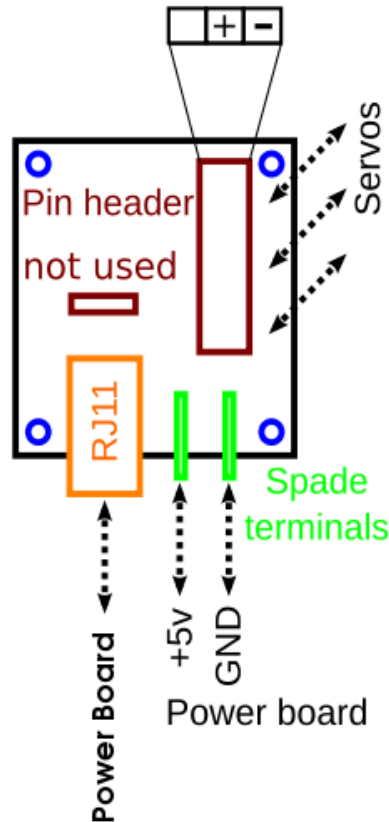

Figure 5.0 – Overview of PWM Board
- Connect SERV+ on the Power Board to the +5V spade on the PWM Board. Connect GND on the Power Board to the GND spade on the PWM Board (Figure 5.0). This provides power to the servos.
There is provision for up to six servos to be controlled by the PWM board (the last two sockets on the board are repeated). Figure 5.0 illustrates how to connect them to the board. Pay close attention to the polarity.